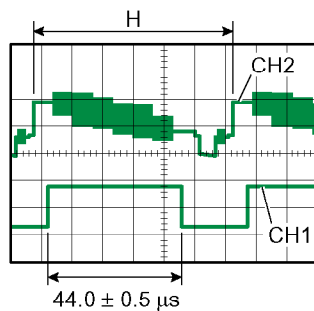

Fig. 4-4
- Adjust the Increment Button (+) or Decrement Button (–) so that the H-scan time becomes $44 \pm 0.5 \mu\text{s}$ as shown in Fig. 4-4.